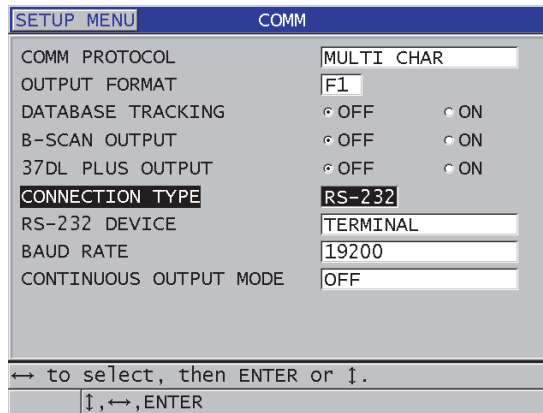

Figure 14-3 Viewing communication parameters
7. In the **COMM** screen (see Figure 14-3 on page 267):